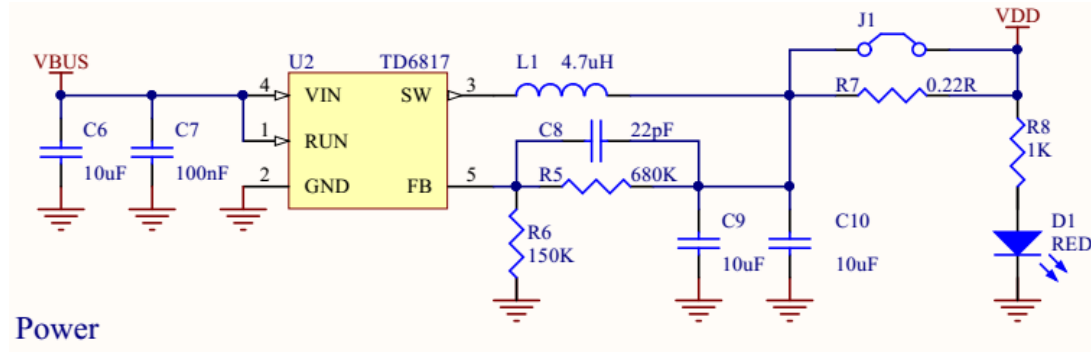

Figure 10 Power Source Circuit
- SMT patch should on the basis of reflow profile diagram, maximum temperature  $245^{\circ}\text{C}$ , reflow profile diagram is shown in figure 10;